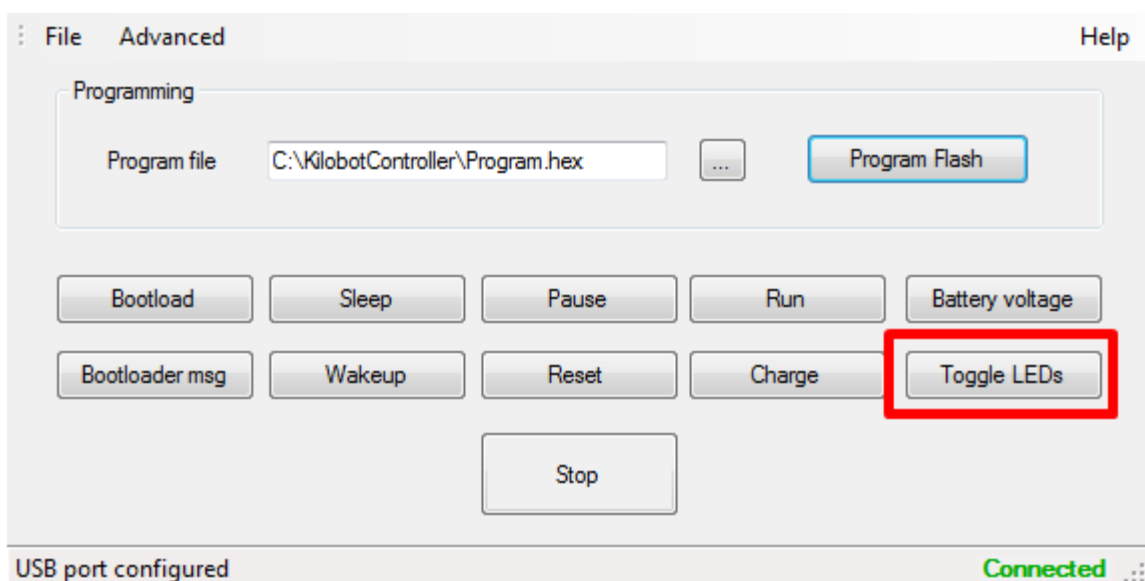

Fig 4.4.2 OHC software buttons
3. Run the *KilobotController.exe* program, and click the “Toggle LEDs” button to test that a connection is made (Fig 4.4.2). This should blink the blue LEDs on the controller.